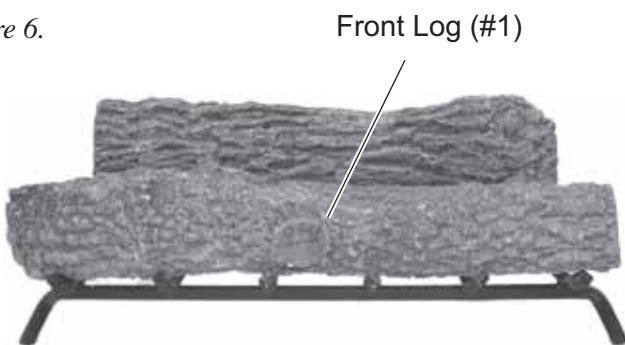

Figure 60 - Placing Front Log (#2) on Front Grate
2. Place Front Log #1 on front of grate. See Figure 60.